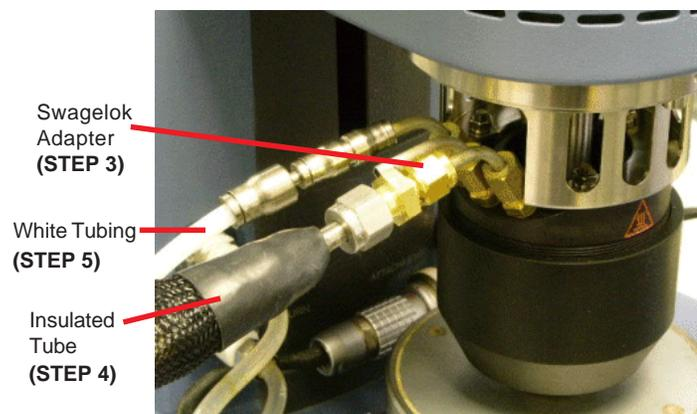

Figure 7.7
3. Remove the metal push-fit connector from the inlet port on the UHP and fit the Swagelok adapter supplied in the kit. See Figure 7.7 to the right. (Note that once this has been fitted, it cannot be removed. Returning to the push-fit connector will require the supplied adapter.)